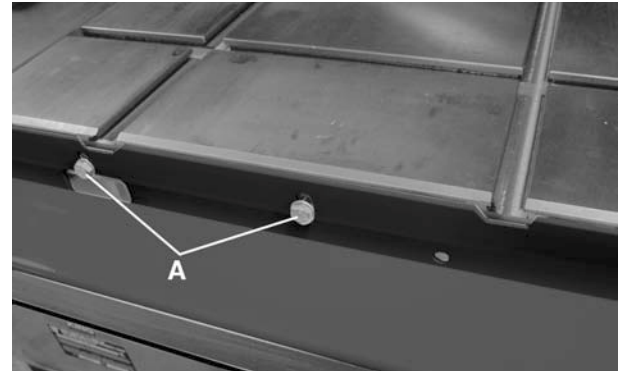

FIGURE 6
- 3) Once the bars are cut and reinstalled, secure the both sides of the router table to the bars using bar mounting hardware (A) Fig.6.